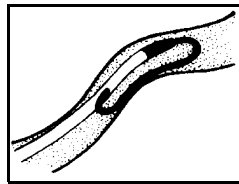

Fig. 8
12. Using centimeter marks on catheter as positioning reference points, advance catheter to final indwelling position. All centimeter marks are referenced from the catheter tip. Marking symbology is as follows: (1) numerical: 5, 15, 25, etc; (2) bands: each band denotes 10 cm intervals, with one band indicating 10 cm, two bands indicating 20 cm, etc; (3) each dot denotes a 1 cm interval.
13. Hold catheter at desired depth and remove spring-wire guide. The Arrow catheter included in this product has been designed to freely pass over the spring-wire guide. If resistance is encountered when attempting to remove the spring-wire guide after catheter placement, the spring-wire may be kinked about the tip of the catheter within the vessel (refer to Fig. 8). In this circumstance, pulling back on the spring-wire guide may result in undue force being applied resulting in spring-wire guide breakage. If resistance is encountered, withdraw